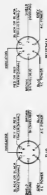

FIGURE 6 - CONNECTIONS OF CABLE TO 6-POLE PLUG AND RECEPTACLE
- (c) Mount echo receptacle in outlet box (see figure 5). Cut off 6-conductor cable to proper length to connect it to outlet box, and mount 6-conductor plug and plug cap on remaining piece of cable. Figure 6 shows connections to plug and receptacle.